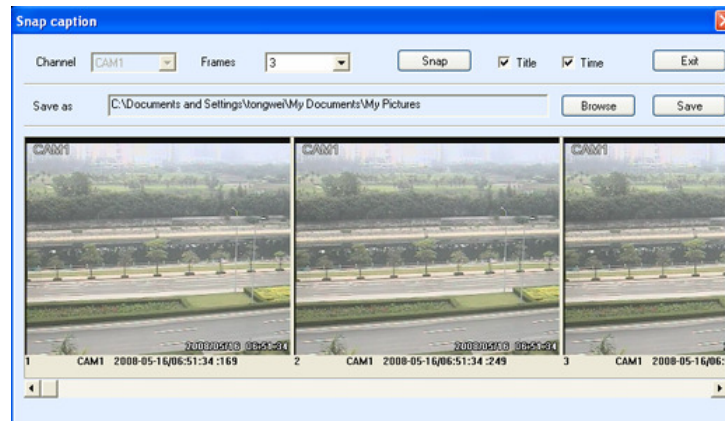

Fig 6.3 Preview Snap
STEP1 Click on a channel to choose. Click the button, a window will appear as in Fig 6.3 Preview Snap.
STEP5 Users can select fast forward/backward, pause, stop playback and snap pictures. About snap feature, it is the same as in remote preview; refer to Fig 6.3 Preview Snap.